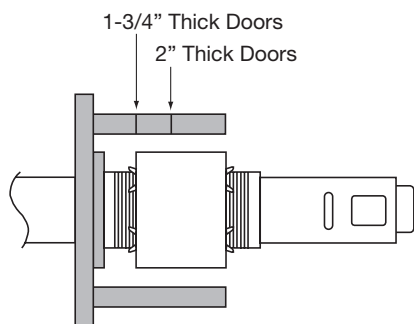

Fig. 5B (Detail)
- Door thickness – 1-3/4" thick. Refer to adjustments below for other door conditions (Fig. 5B).
- Through bolt location: Rotate outside rose to match door (Fig. 5B).